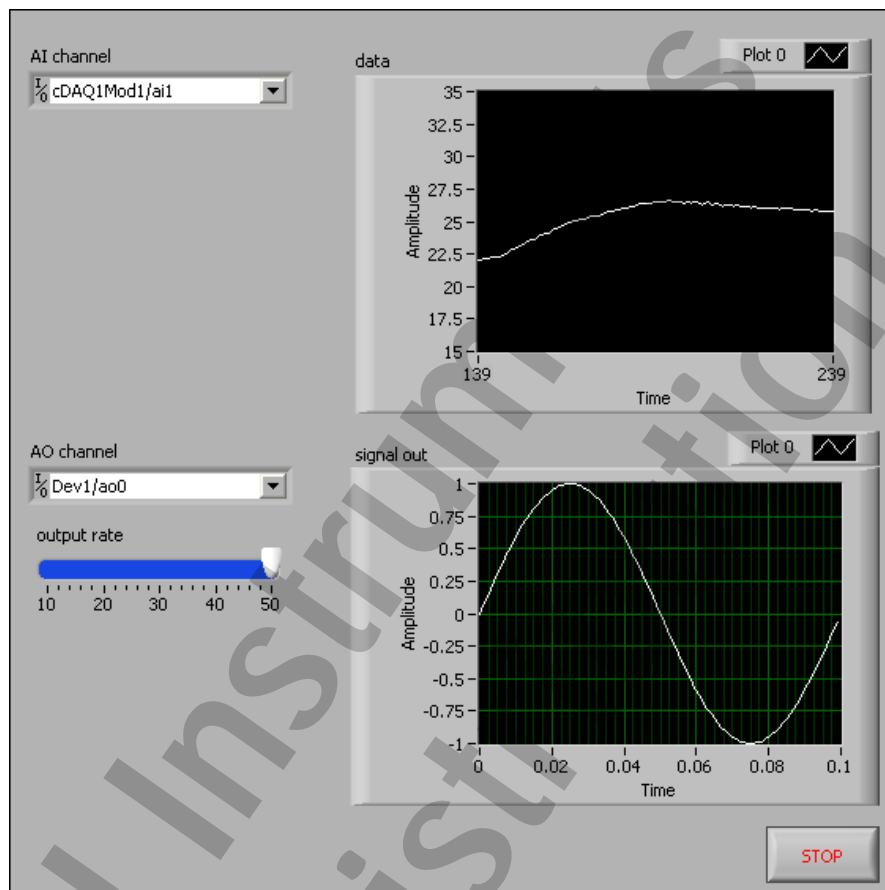

Figure 8-5. Multi-device Synchronous AI and AO VI Front Panel
4. Arrange the front panel controls and indicators as shown in Figure 8-5.